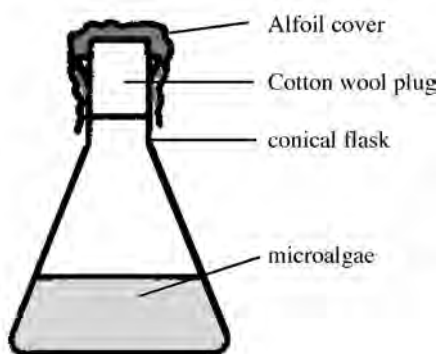

Figure 18.2 A small amount of liquid put into a large container is not a problem for a time
- This is not a problem when a small amount of liquid is put into a large container - the air can diffuse in and out through a cotton wool or specially designed filter plug as shown in Figure 18.2.